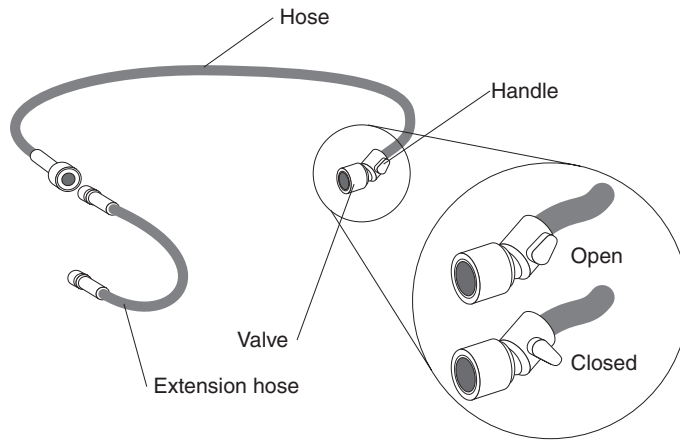

Figure 32. Air-purging tool
9. Turn the air-purging tool handle to the open position (parallel to the hose). (See Figure 32 on page 42.) Water that is mixed with air begins to spit into the container when the manifold is almost full.